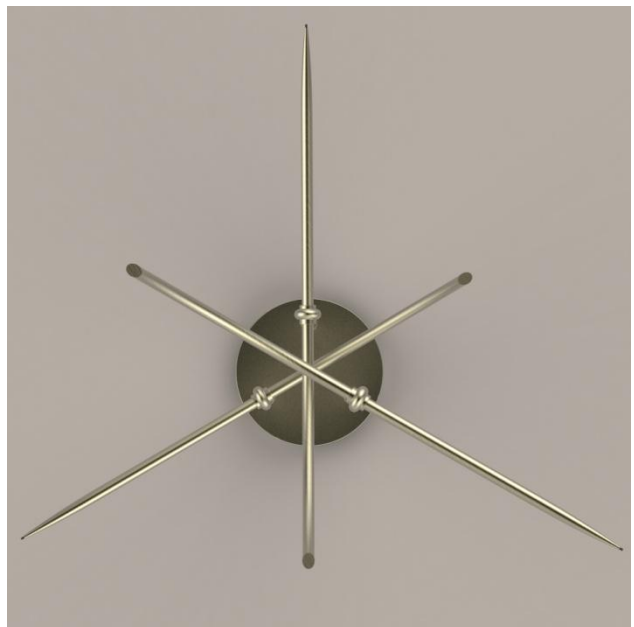

Figure 6
- Final recommended layout is as shown in Figure 6 but orientation may be set as desired.